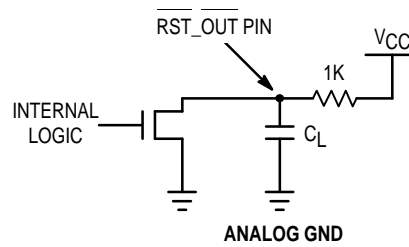

Figure 3. RST_OUT Test Circuit
- The $\overline{RST_OUT}$ pin is an open drain N-Channel output. Therefore an external pull-up resistor must be provided to pull up the $\overline{RST_OUT}$ pin when it goes into the high impedance state (after the MC88LV926 is phase-locked to the reference input with RST_IN held high or 1024 'Q' cycles after the RST_IN pin goes high when the part is locked). In the t_{pLZ} and t_{pZL} specifications, a 1K Ω resistor is used as a pull-up as shown in Figure 3.